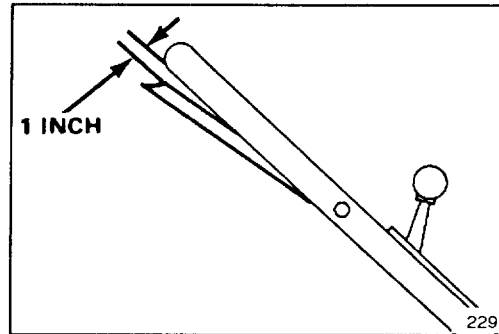

Figure 14
2. CHECK ADJUSTMENT—Slowly pull mower backward while control bar is gradually moved toward handle. Adjust ment is correct when rear wheels stop turning and control bar is about 1-inch from handle (Fig. 14).